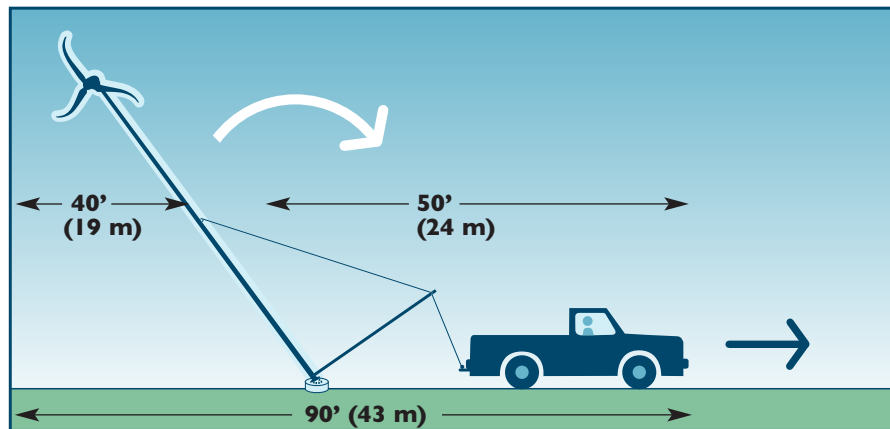

Fig. 1C
- Screw a 1 1/4" nut on each of the three foundation bolts that will be used to mount the tower hinge. Thread the nuts down so the top of the nut is approximately 5" (13 cm) from the top of the foundation bolt. Refer to Fig. 1C.